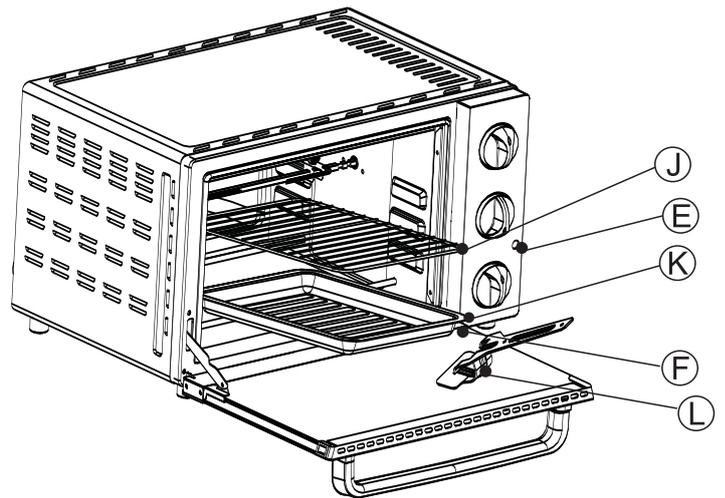
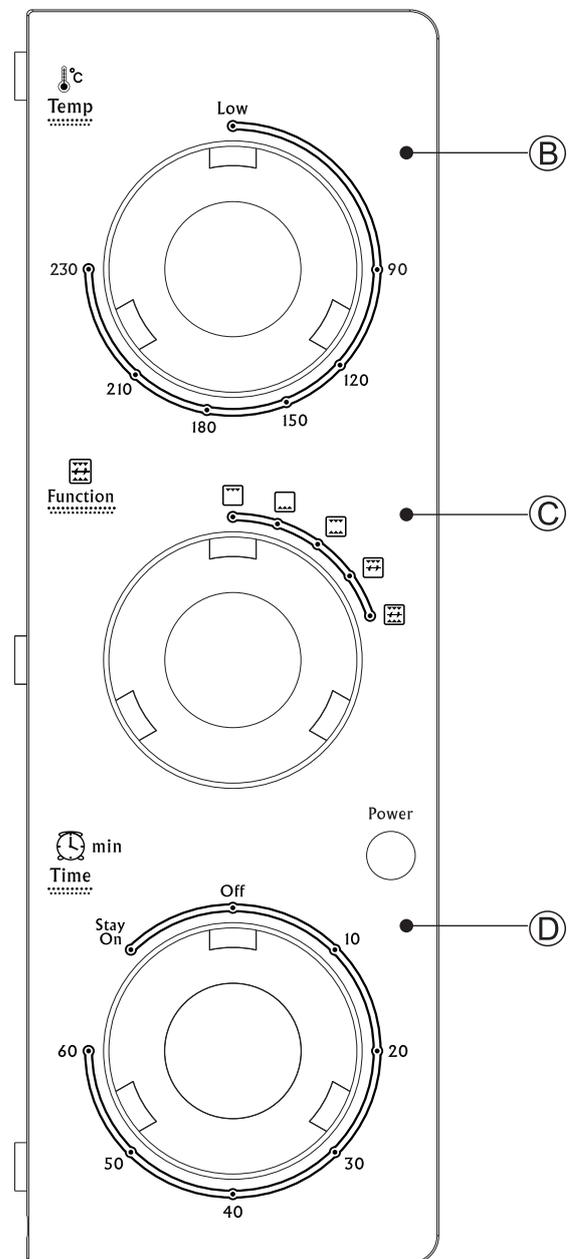
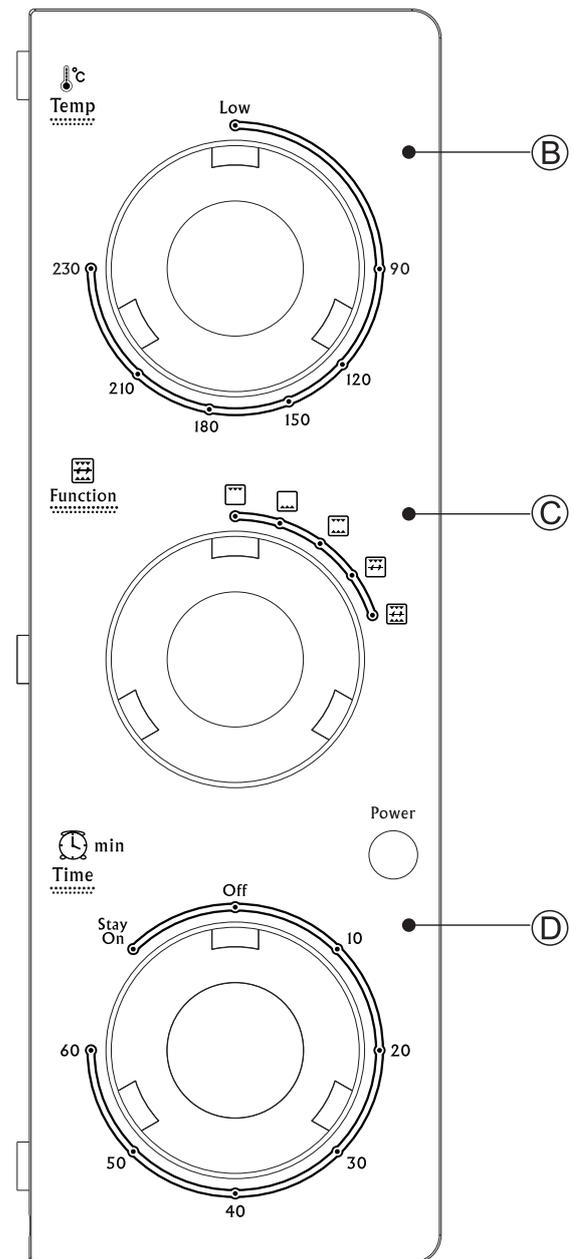

fig. 3
fig. 4
fig. 5
2. The Oven Power Indicator (E) will light up.
**See fig. 4.**
3. Place the food on Grill Rack (J) or Food Tray (K) and close the Glass Door (F).
**See fig. 3.**
4. Set the Oven Temperature dial (B) to desired temperature.
5. Set the Function dial (C) to desired position:
- a. Use accessory handle (L) or oven gloves to remove hot food to avoid burning hands.
- b. Turn the Oven Temperature dial (B) to "LOW" position and Time dial (D) to OFF.
3. Remove the Food Tray (K) from the oven and Grill Rack (J) if not required.
4. Set the temperature of the oven by turning the Oven Temperature dial (B) to desired temperature .
**See fig. 5.**